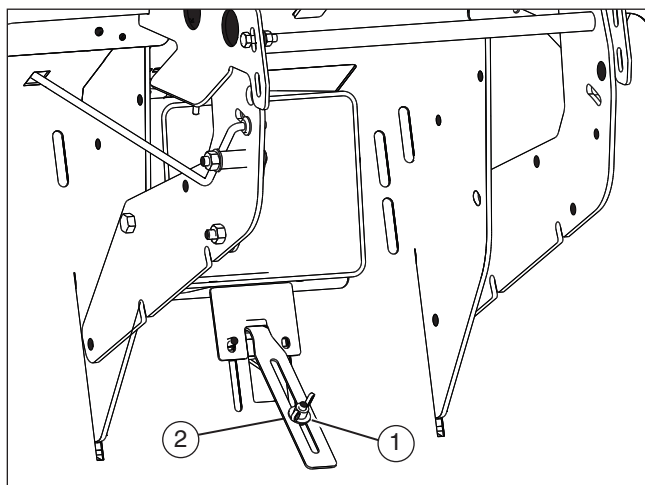

Figure 38
Sliding the carriage bolt, washer, and nut (1) up decreases the sensitivity in the bagger before the buzzer goes off (see **Figure 38**). Sliding the carriage bolt, washer, and nut down increases the sensitivity in the bagger before the buzzer goes off.
1. Loosen carriage bolt, washer, and nut (1).
2. Slide carriage bolt, washer, and nut up or down the buzzer lever (2).